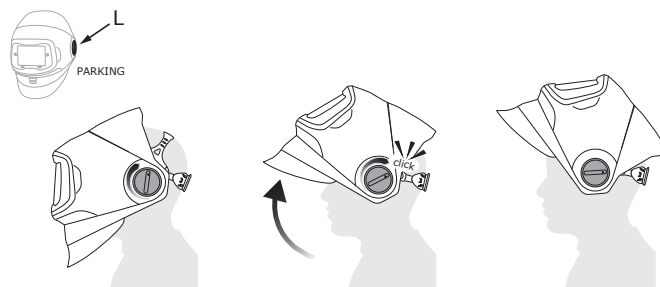

Fig. 6b
- b. The parking stop, is a natural stopping point that will help hold the grinding lens in the open or up position. To make the stopping point more prominent, turn the left-hand pivot knob labeled **PARKING** clockwise to increase, counter clockwise to decrease the holding power at the stopping point (Fig. 6b).